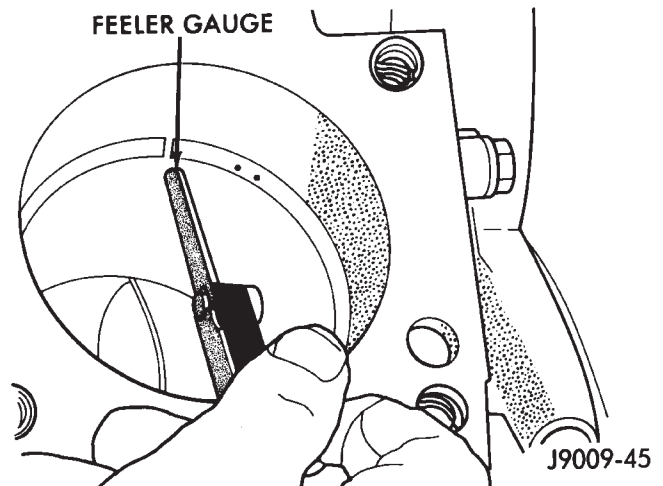
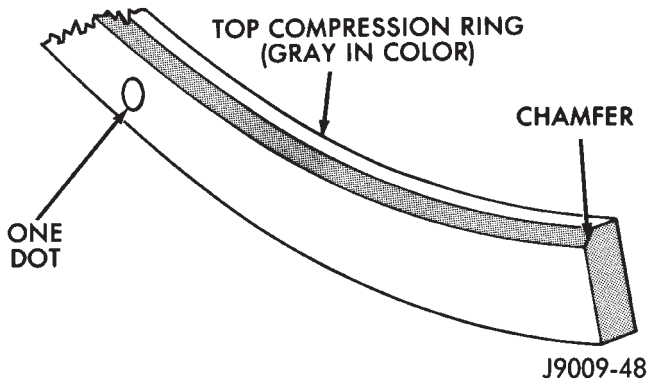
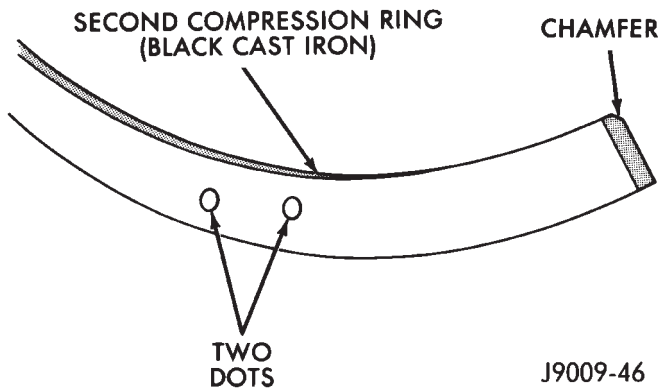

Fig. 12 Ring Gap Measurement
Fig. 13 Top Compression Ring Identification
Fig. 14 Second Compression Ring Identification
(4) Place ring in the cylinder bore and push down with inverted piston to position near lower end of the ring travel. Measure ring gap with a feeler gauge fitting snugly between ring ends (Fig. 12). The correct compression ring end gap is 0.25-0.51 mm (0.010-0.020 inch). The correct oil control ring end gap is 0.381-1.397 mm (0.015-0.055 inch).
(5) Install the oil control rings according to instructions in the package. It is not necessary to use a tool to install the upper and lower rails. Insert oil rail spacer first, then side rails.
(6) The two compression rings are different and cannot be interchanged. The top ring (Fig. 13) is a moly ring (the scraping edge is gray in color). The second ring (Fig. 14) is a black cast iron ring (the scraping edge is black in color when new). The compression rings may also be identified by 1 or 2 dots on the top surface of the ring (Figs. 13 and 14).